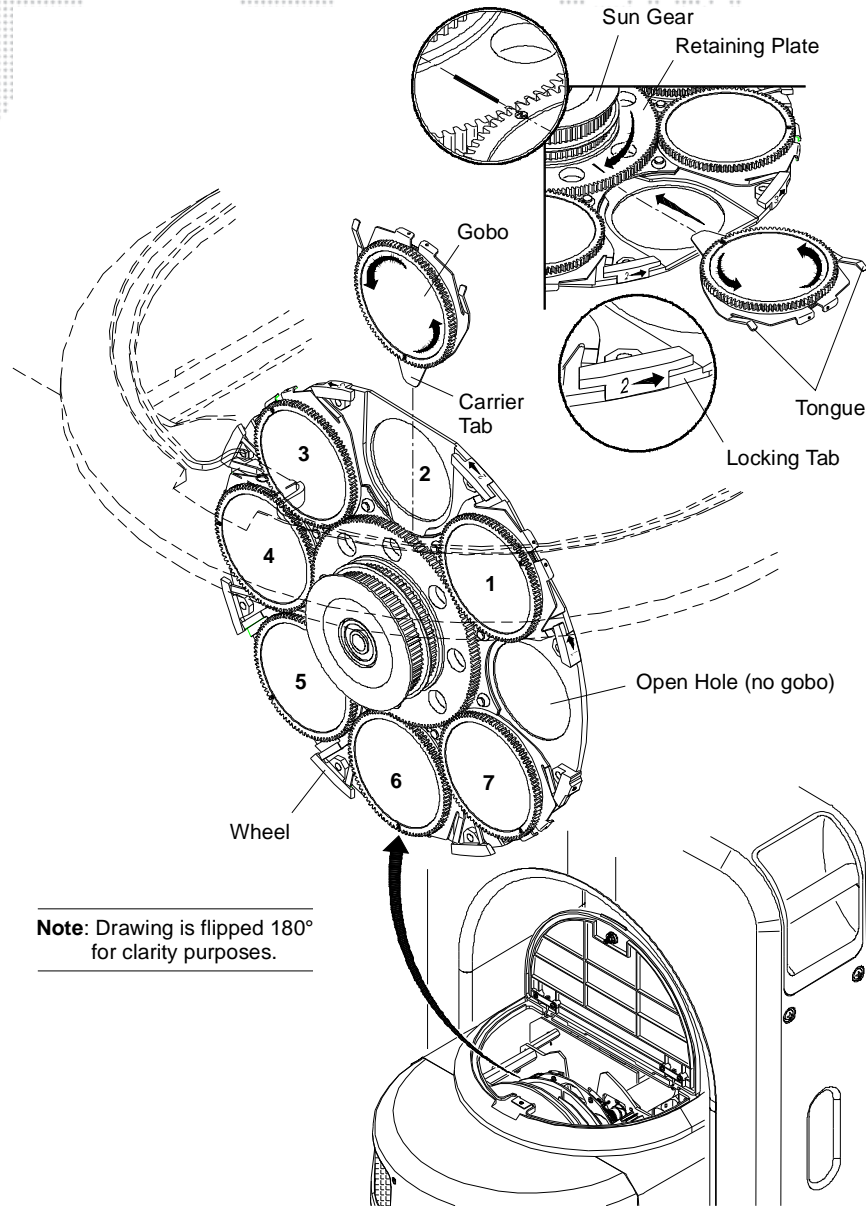

Figure 3-14: Replacing a Gobo
Step 5. Using fingers, grasp frame of gobo and pull out of wheel (**Figure 3-14**).